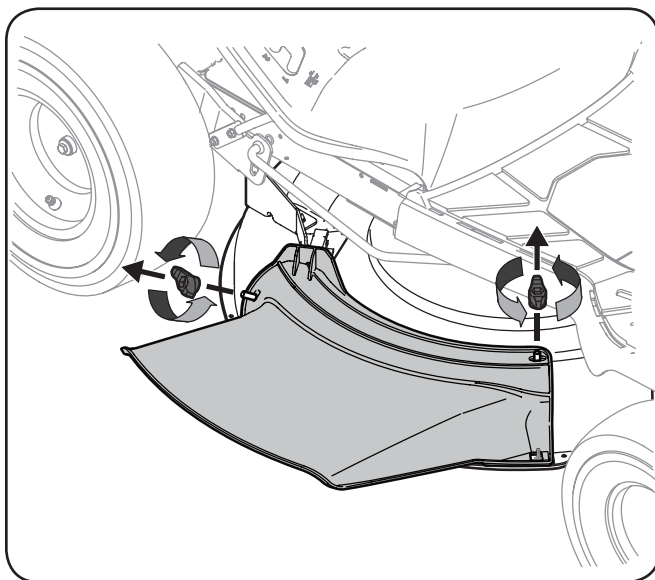

Figure 1-1
1. Remove the wing knobs that secure the discharge chute in place. See Figure 1-1.